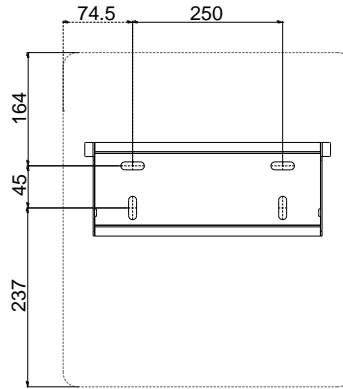

FIG.6-6 Drilling Positions (W x H, 399 x 446mm)
1) Use the wall-mounting bracket as a template and mark the positions of the drill holes, then drill the 4 holes accordingly, as per FIG. 6-6. (Diameter = 11mm, Depth ≥ 55mm).
Note: The external dimensions (W × H) of inverter are shown as a dashed line in FIG. 6-6.